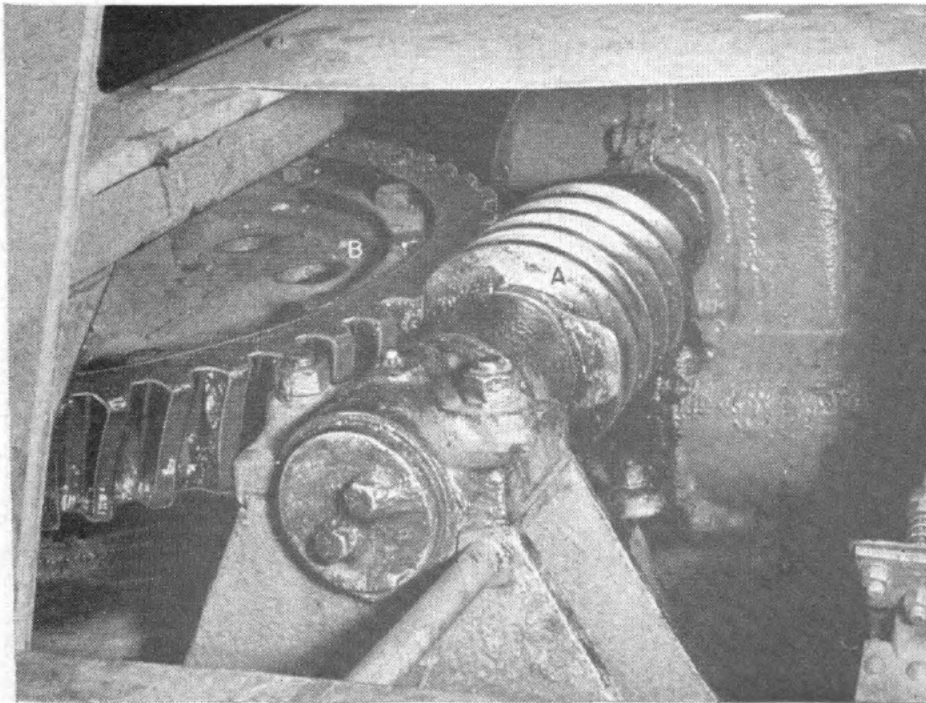

Figure 112.
4. Look at figure 112. (a) What is the name for this gear arrangement? (b) Worm *A* drives gear *B*. Worm *A* turns 1,200 rpm. Gear *B* has 60 teeth. How fast does gear *B* turn?